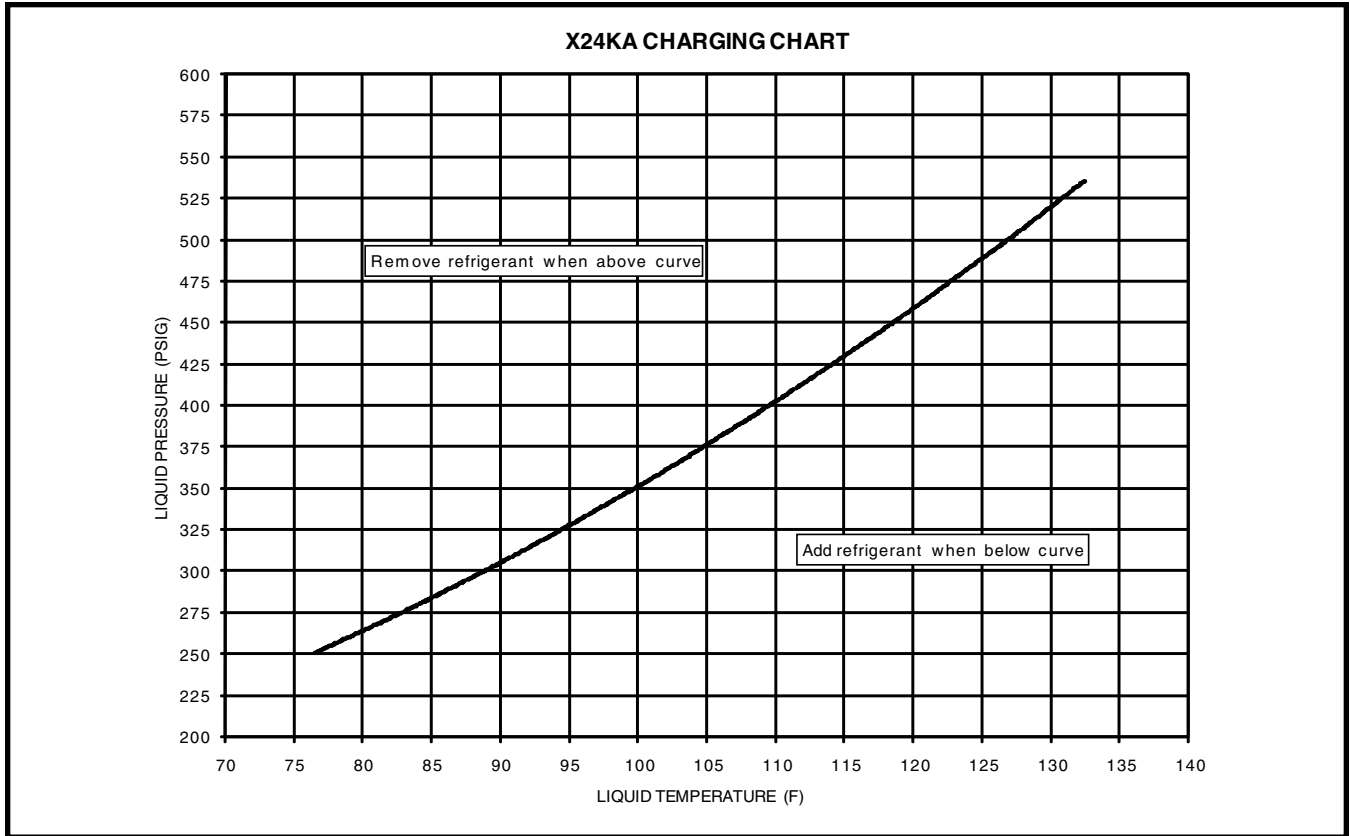
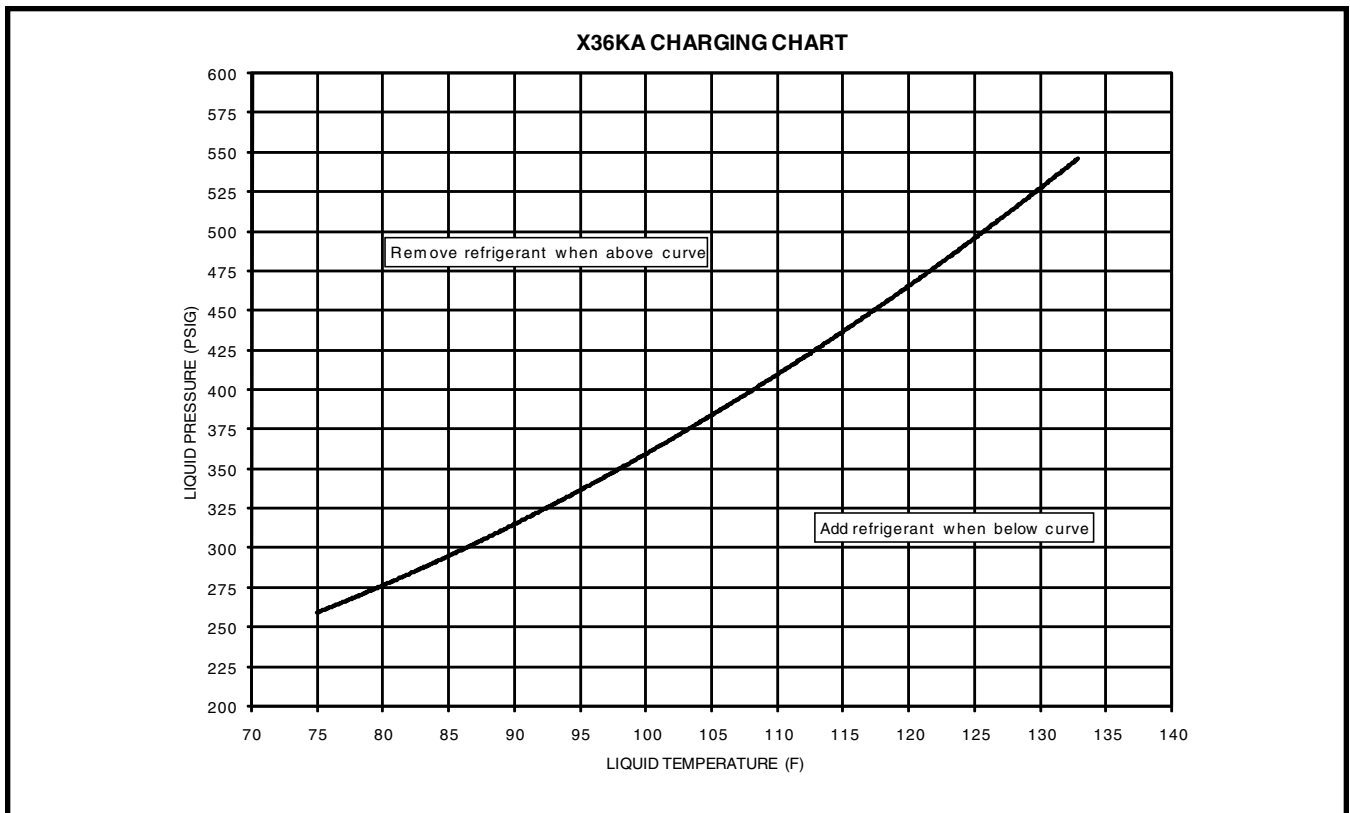
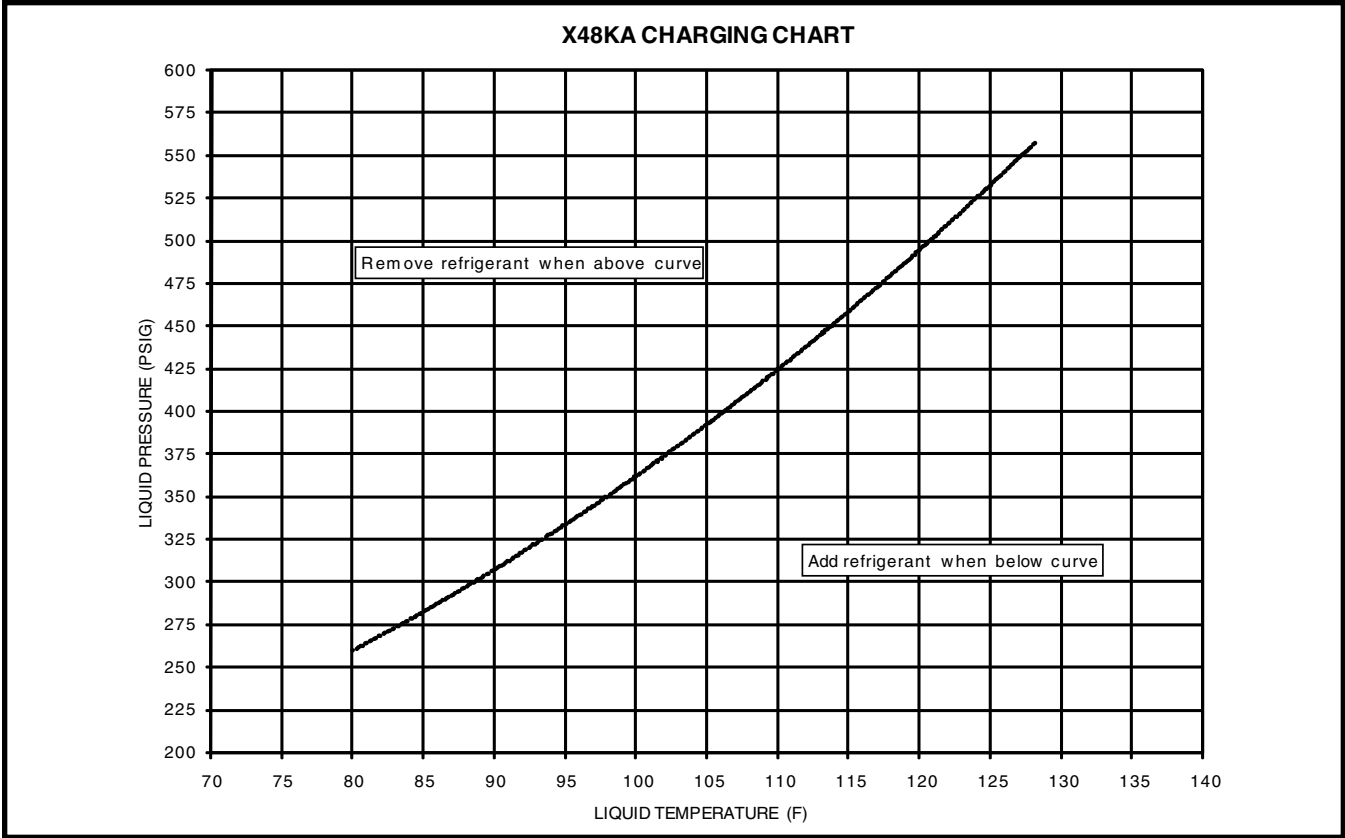
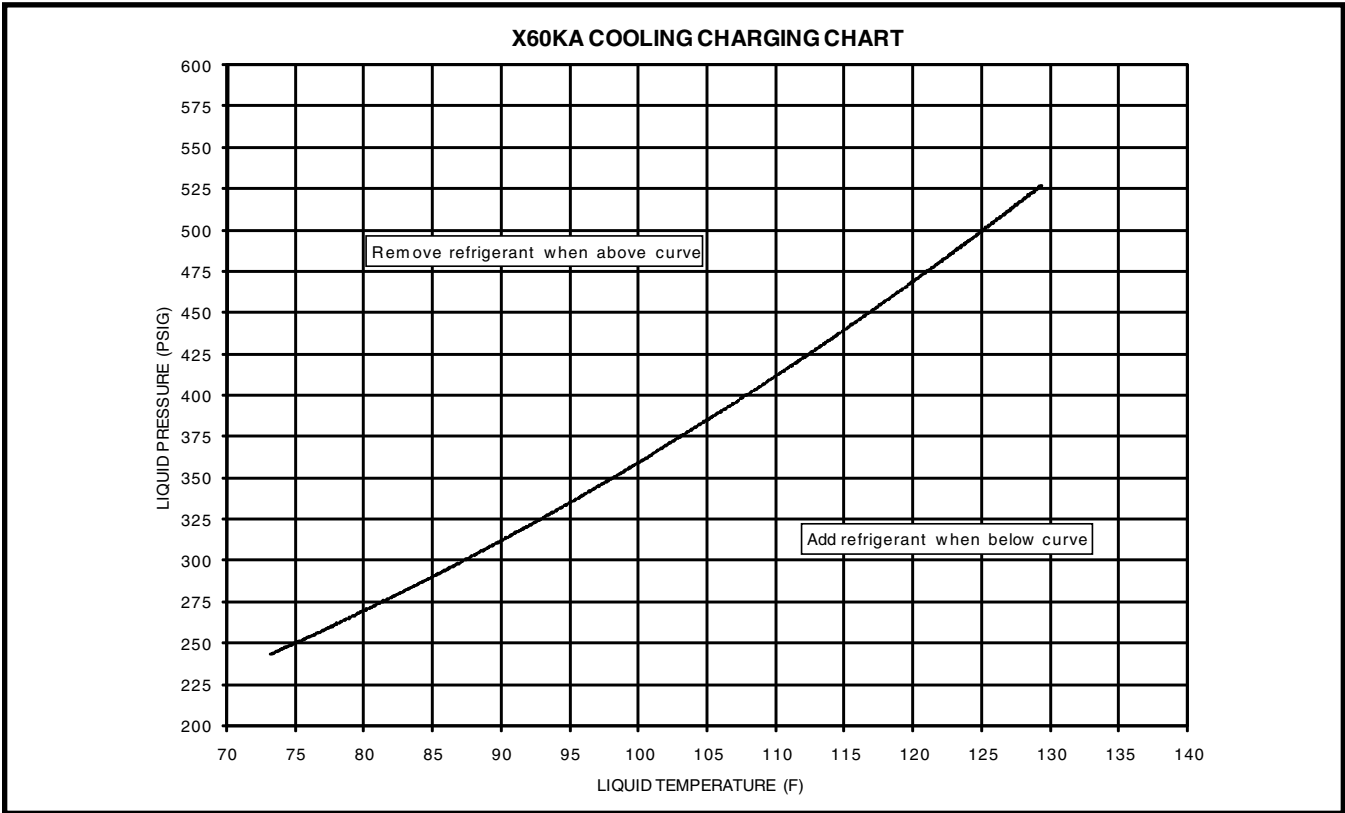

Figure 9. Charging Chart for 2 Ton Units
Figure 10. Charging Chart for 3 Ton Units
Figure 11. Charging Chart for 4 Ton Units
Figure 12. Charging Chart for 5 Ton Units
- To achieve rated capacity and efficiency the compressor must be exposed to refrigerant for at least 24 hours prior to running and then must be run for a minimum of 12 hours. If Charging in Cooling Mode, see Refrigerant Charging Charts: Figure 9 \(page 14\) Figure 10 \(page 14\), Figure 11 \(page 15\), & Figure 12 \(page 15\).